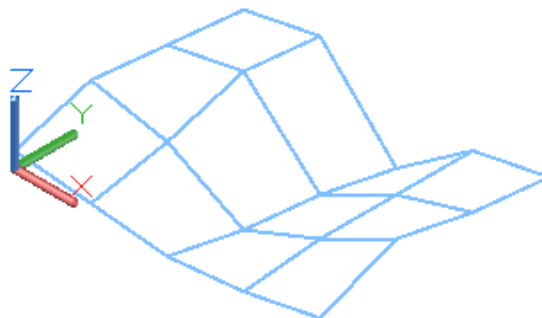

Figure Step 5
Step 5 Enter the commands shown below. The model should display as it was when you started this exercise. (Figure Step 5)